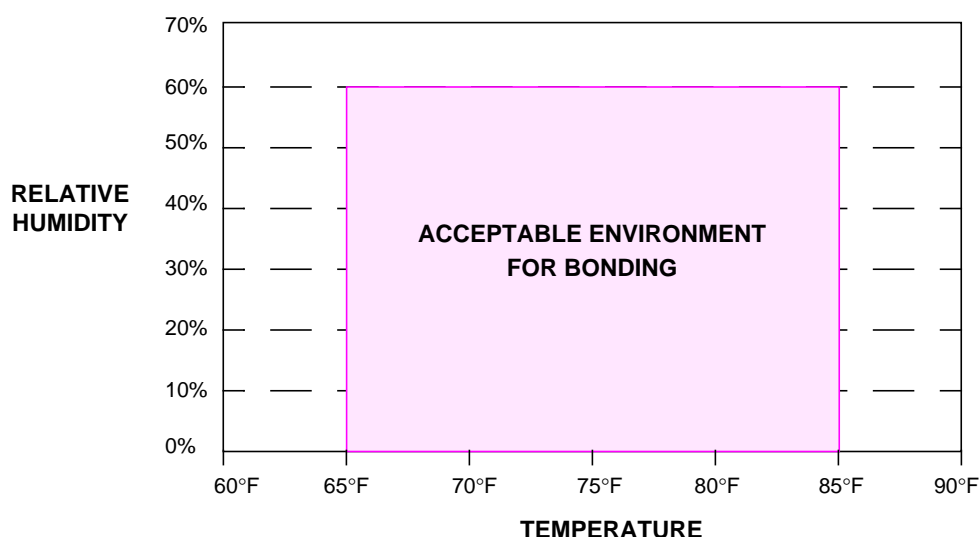

FIGURE 1 - TEMPERATURE AND HUMIDITY LIMITS
- 6.2.2 Maintain the temperature and relative humidity of the bonding areas within the range specified in Figure 1. Bonding when the relative humidity is below 30% will increase the chance of static discharge and worker discomfort, but will not affect part quality.